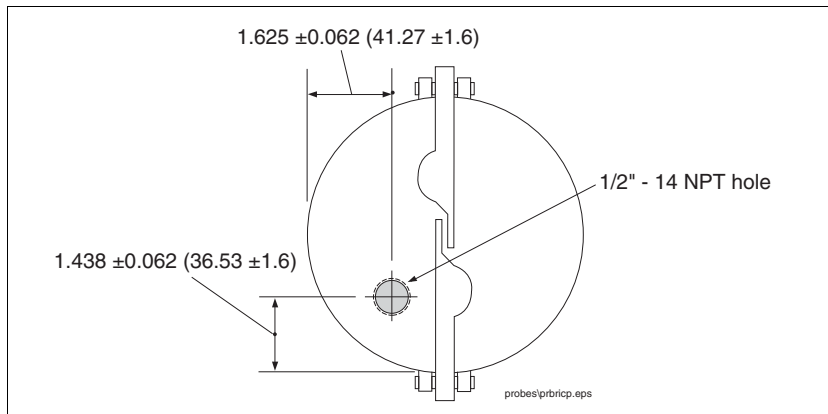

Figure 8. Modifying An Existing Metal Riser Cap
2. Drill and tap the cap for a 1/2"-14 NPT cord grip thread [Figure 8].